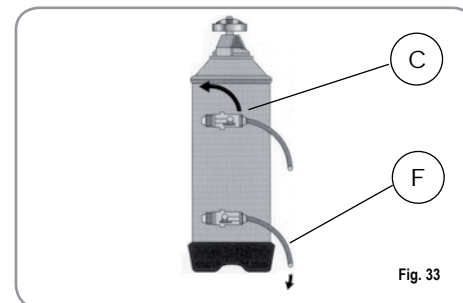

Fig. 33
2) Put the cap back on and reposition lever C moving it towards the left (Fig. 33) and allowing tube F to discharge the salty water until it has been eliminated and the water becomes fresh again (about half an hour).